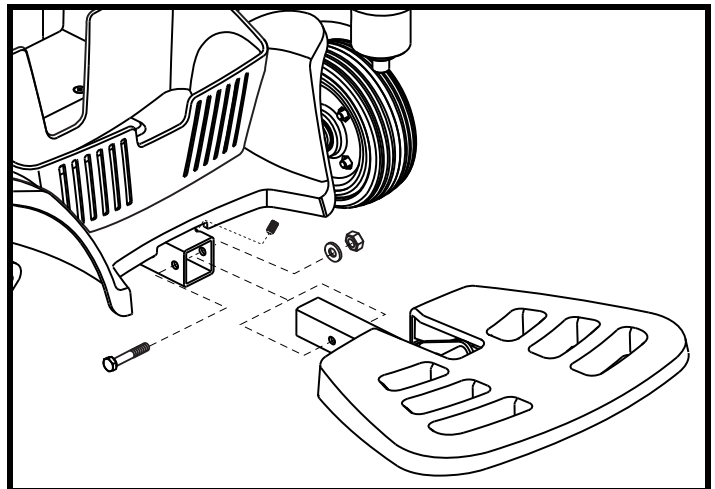

Figure 15. Foot Platform Depth
1. Remove the hardware from the foot platform bracket. See figure 15.